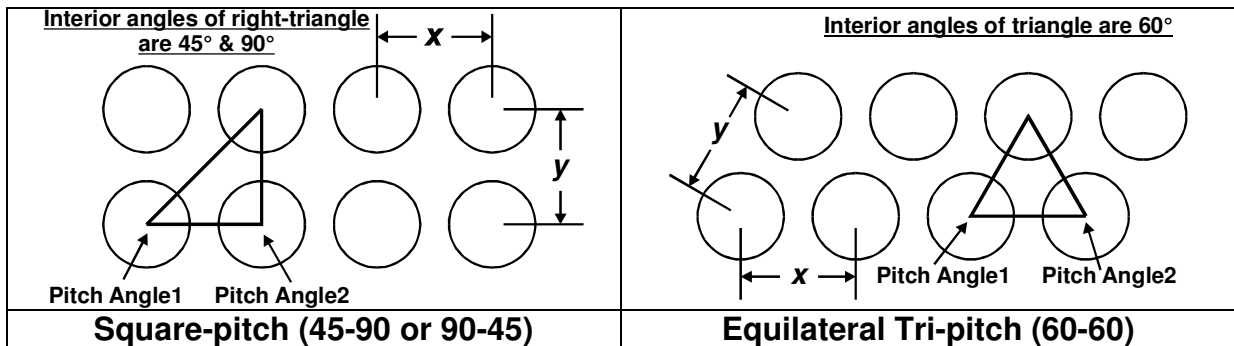
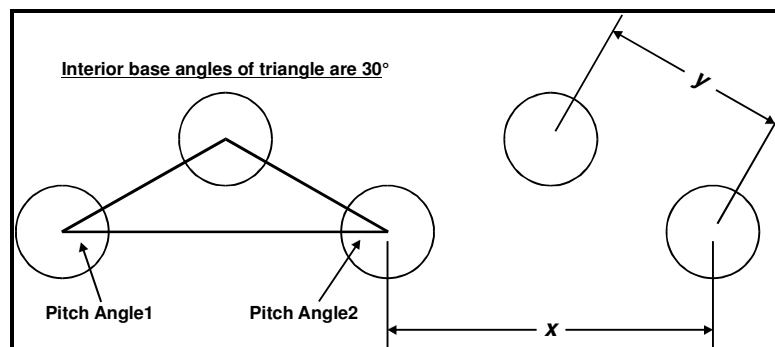

Figure 39. Symmetrical Tube Pitch Designs
Figure 40. Asymmetrical Tri-Pitch Design (30-30)
- **Tube Pitch:** Enter the horizontal center-to-center tube pitch. For square-pitch and equilateral tri-pitch, the tube pitch is the same horizontally or vertically as shown in Figure 39.
The tube pitch provided on most specification drawings is not the horizontal tube pitch (x), but rather the tube pitch (y) along either side of a triangle created by selecting a tube in any row and drawing vectors down to the 2 adjacent tubes directly below it. In the first graphic of Figure 39, this action creates a right-triangle with either leg being equal ($x = y$). In the second graphic, an equilateral triangle is created with all sides being equal ($x = y$). All the interior angles of the equilateral triangle are 60° while the interior angles of the right-triangle are 45°, 45°, and 90°. In both of these cases, the horizontal tube pitch (x) is the same as the vertical tube pitch (y) as shown.
However, a common tri-pitch design used in some heat exchangers is referred to as '30-30' tri-pitch. In this case, the resulting triangle is not equilateral and the interior angles are 30°, 30°, and 120° as shown in Figure 40. The y dimension shown along one of the legs of the triangle is typically the tube pitch value given on manufacturer's specification drawings. **MakeComp** needs the horizontal tube pitch (x) to accurately calculate the position of the tubes on the *building grid*.
To calculate the horizontal tube pitch for the 30-30 tri-pitch layout shown in Figure 40 when only the y dimension is provided, use the following formula:
- ❑ **Pitch Angle1:** Enter the left interior base angle of the triangle created as shown in Figure 39 or Figure 40. For square-pitch and equilateral tri-pitch, **Pitch Angle1** is 45° or 90° for square-pitch dependant on how the triangle is drawn, and 60° for equilateral tri-pitch. For asymmetrical tri-pitch (Figure 40), enter the actual base angles. In the example shown in Figure 40, a value of 30° would be entered in this field. By entering accurate values in this field, the **Pitch Angle2** field, and the **Tube Pitch** field, any conceivable tubesheet map can be created since these three (3) values are used to accurately calculate the position of each tube and their relationship to other tubes.
- ❑ **Pitch Angle2:** Enter the right interior base angle of the triangle created as shown in Figure 39 or Figure 40. For square-pitch and equilateral tri-pitch, **Pitch Angle2** is 45° or 90° for square-pitch dependant on how the triangle is drawn, and 60° for equilateral tri-pitch. For asymmetrical tri-pitch (Figure 40), enter the actual base angles. In the example shown in Figure 40, a value of 30° would be entered in this field. See **Pitch Angle1** above for addition details.